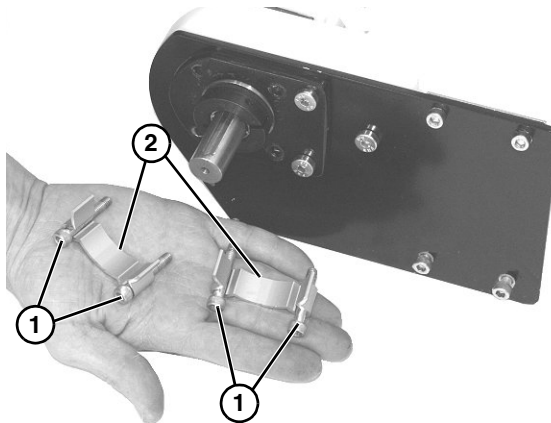

Figure 41
6. Remove four socket head screws (**Figure 41, item 1**) and drive guards (**Figure 41, item 2**).